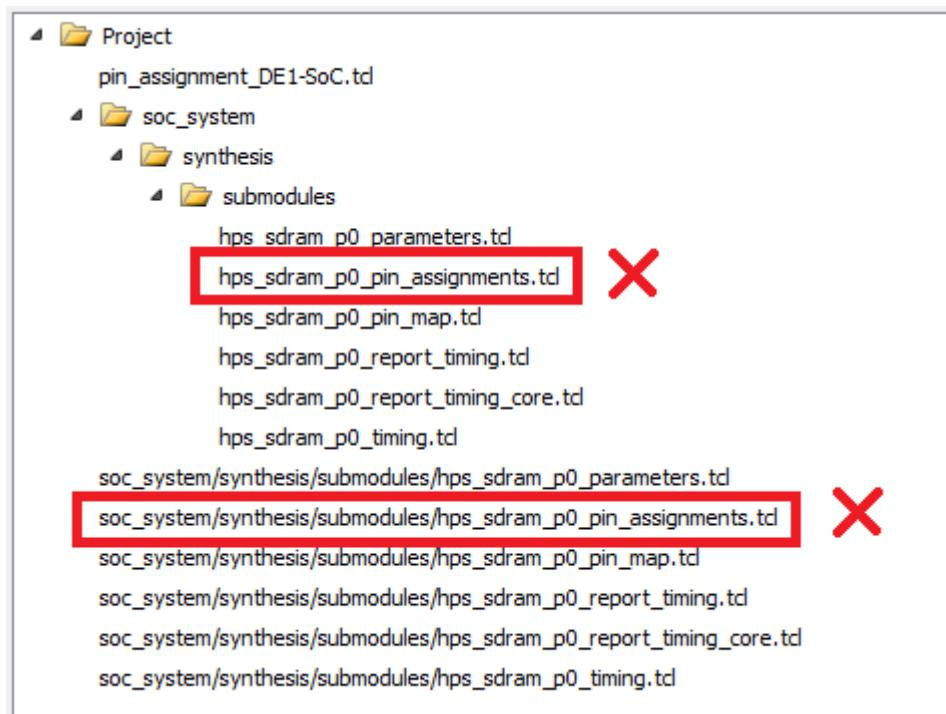
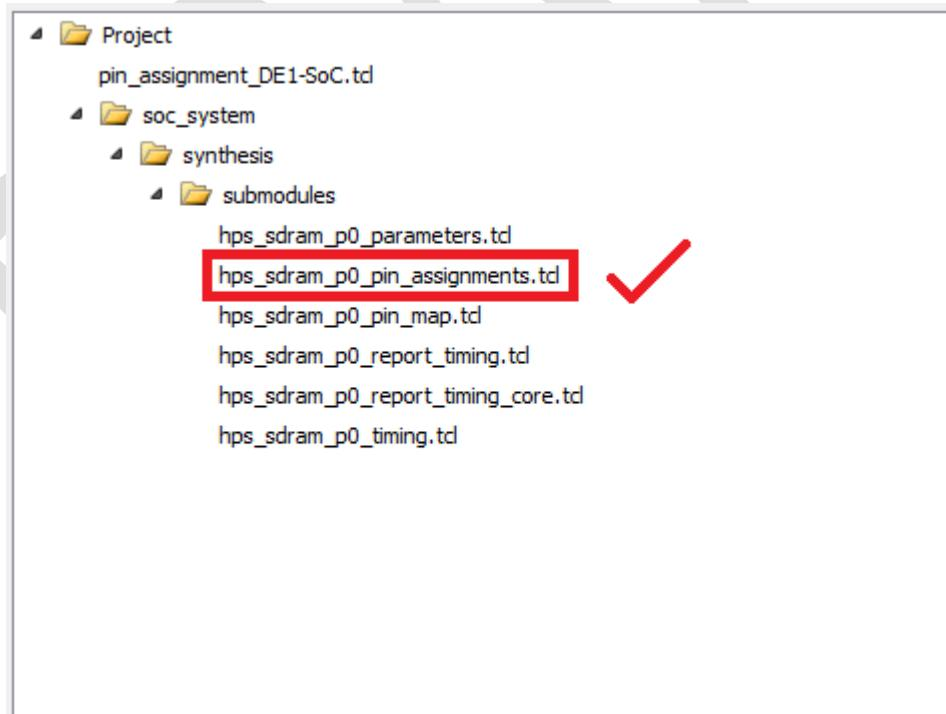

Figure 8-13. HPS DDR3 Pin Assignment TCL Script Selection Bug
Figure 8-14. Correct HPS DDR3 Pin Assignment TCL Script Selection
**IF AT THIS POINT YOU SEE THE SAME THING AS ON Figure 8-13 IN QUARTUS II, THEN CLOSE AND RELAUNCH QUARTUS II AGAIN. SOME VERSIONS OF QUARTUS II SUFFER FROM A BUG, WHERE THE PROGRAM DOESN'T CORRECTLY DETECT TCL FILES GENERATED BY QSYS. YOU SHOULD SEE THE SAME THING AS ON Figure 8-14.**